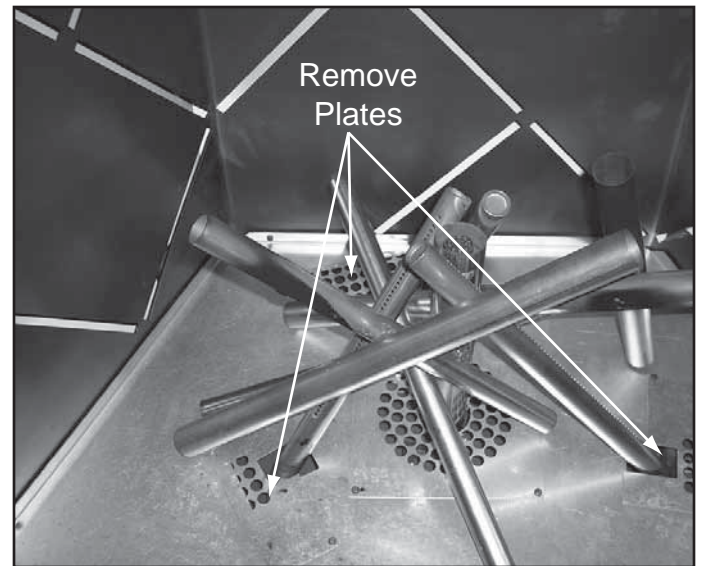

Figure 3.8 Remove Three Plates
- Remove three cover plates by removing two screws from each plate. See Figure 3.8.